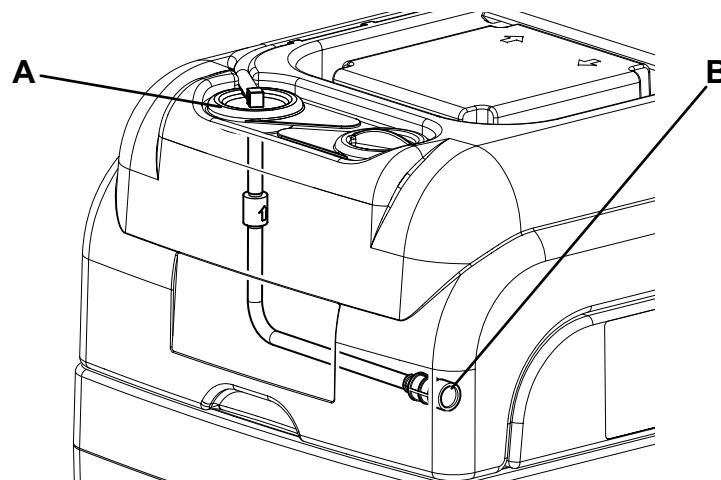

Figure 4
1. Empty the solution tank (14) as shown in Use chapter.
3. Make sure that the power supply cable (10) is disconnected from the electrical mains.
4. Remove the solution hose plug (A, Fig. 4), carefully remove the hose from the tank and clean the filter (B) with water.